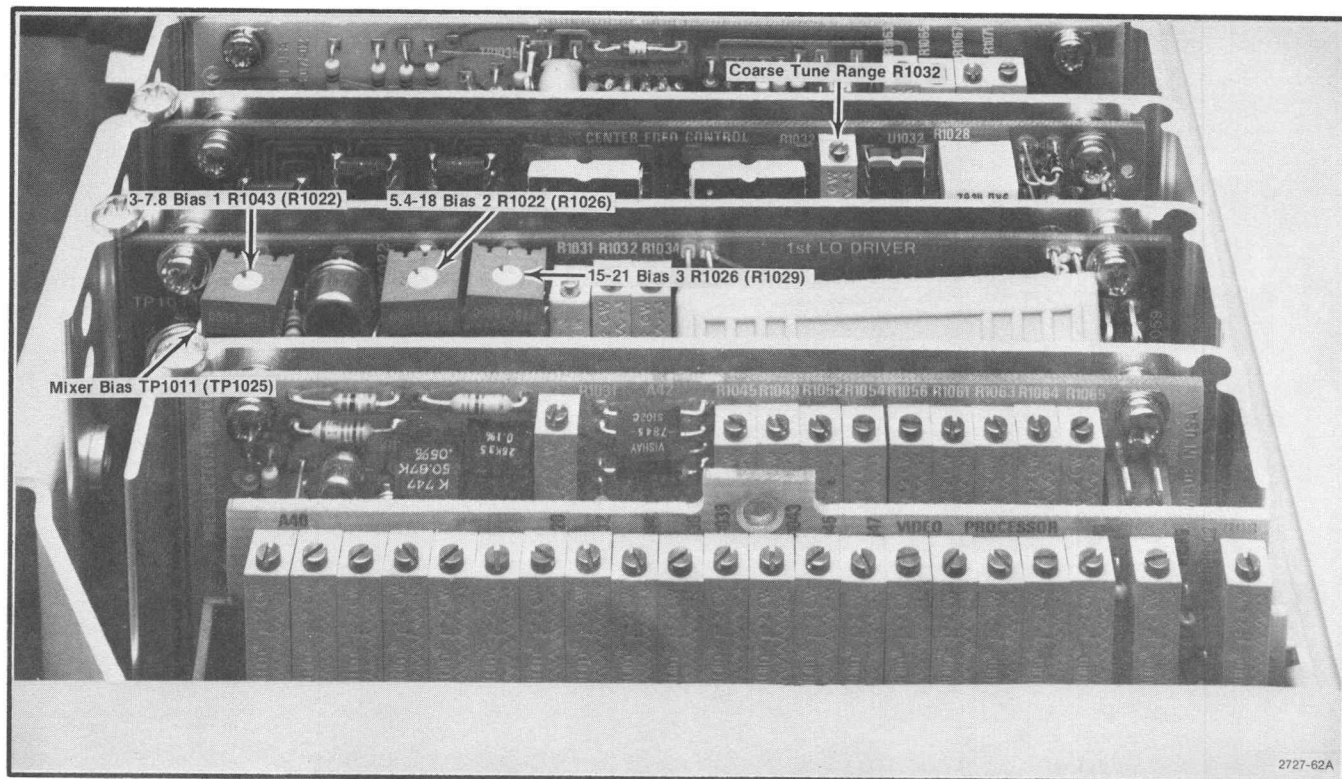

Fig. 3-34. 1st LO Driver adjustments and test point locations. (Circuit numbers in parenthesis apply to earlier version boards.)
- Switch the FREQUENCY RANGE to the 3.0—7.1 GHz band. Adjust Bias 1 (R1013) on the 1st LO Driver (Fig. 3-34) for 0.25 V at TP1011.
- Switch the FREQUENCY RANGE to 3.0—7.1 GHz band. Adjust Bias 1 R1022 on the 1st LO Driver board, Fig. 3-34 for -0.25 V at TP1025.